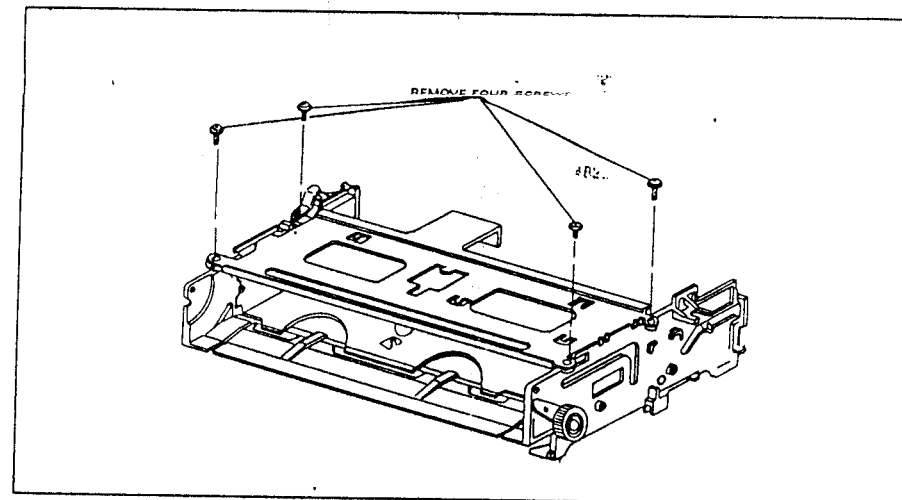

Fig. 20 Upper Chassis Removal
13. After removing four screws, pull the upper chassis upward to remove. (Fig. 20)